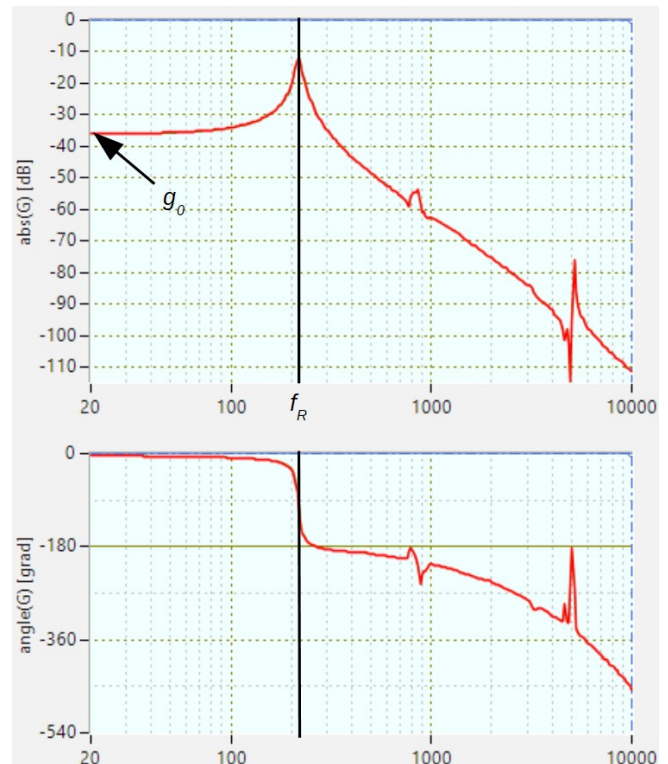

Figure 6: Typical Bode measurement of the rotational axis of a stiff gantry with a gain g_0 of -36dB and resonance frequency f_R of 218Hz.
Stiff gantries show a different characteristic for the rotational axis which resembles to a spring mass system (see Figure 6). Depending on the relation between the resonance frequency f_R and the desired bandwidth of the controller f_B , a different approach for the tuning has to be used:
- If the resonance frequency f_R is in range of the desired bandwidth f_B , the settings according to equation 4 are recommended as an initial approach. Use the **Additive, Gain** structure for the controller in this case. See Figure 6 on how to determine the values for the gain g_0 and resonance frequency f_R .